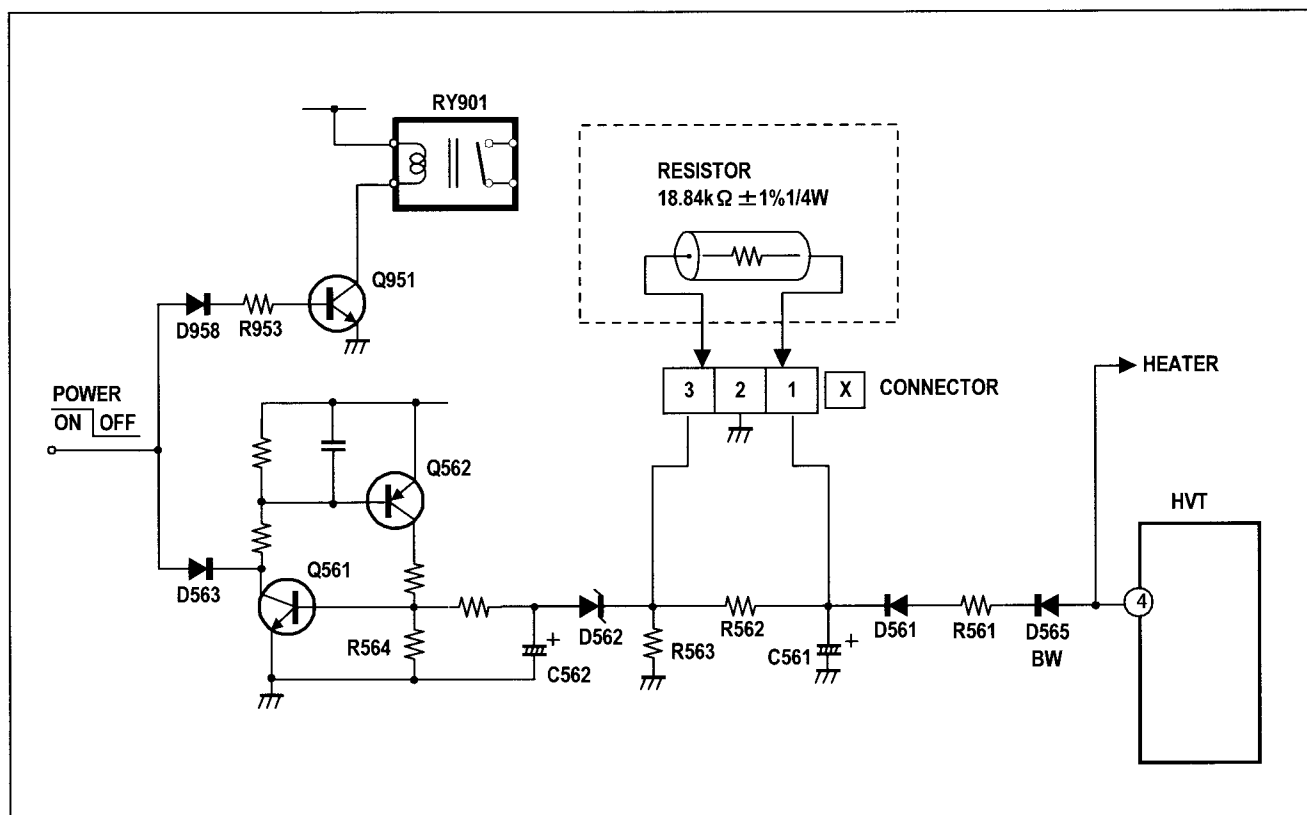

Fig. 1
After repairing the high voltage hold down circuit shown in Fig. 1.
- (1) Turn the POWER SW ON.
- (2) As shown in Fig. 1, set the resistor (between [X] connector [1] & [3]).
- (3) Make sure that the screen picture disappears.
- (4) Temporarily unplug the power cord.
- (5) Remove the resistor (between [X] connector [1] & [3]).
- (6) Again plug the power cord, make sure that the normal picture is displayed on the screen.